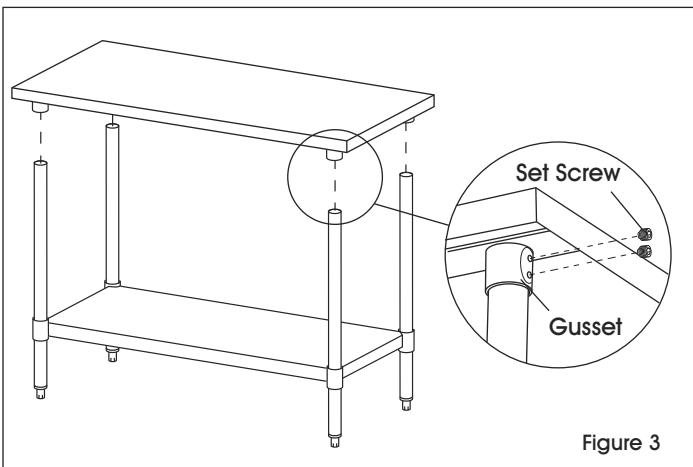

Figure 3
- Stand table upright and place tabletop onto legs, inserting legs into tabletop gussets. With a 5/32" Allen wrench, tighten set screw on each gusset. (See Figure 3)